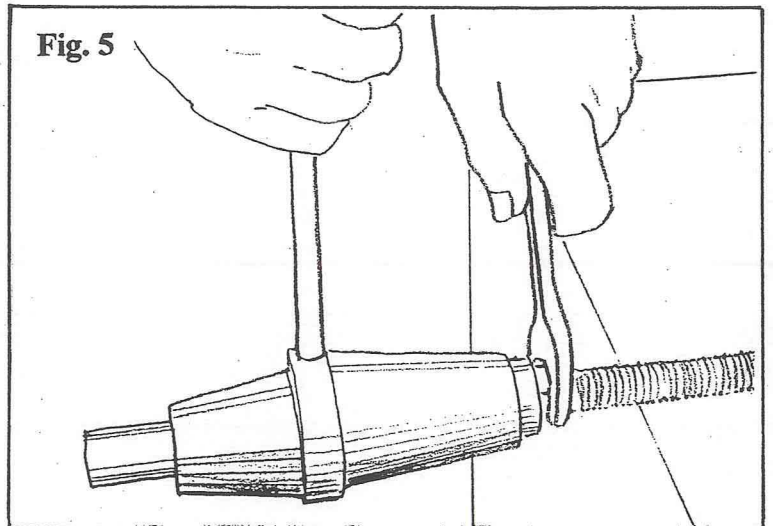

Fig. 5
9. Fully screw home one end of the *Threaded Tension Rod* (SBT17) into the tapped hole in the end of the concentric side of the *Taper Block* (SBT2). Using a *12mm Ø bar and spanner, very firmly tighten the lock-nut. (Fig. 5) Use of thread grade 'Loctite' on this joint will help to prevent it unscrewing when future adjustments are made to the alignment of the centres.